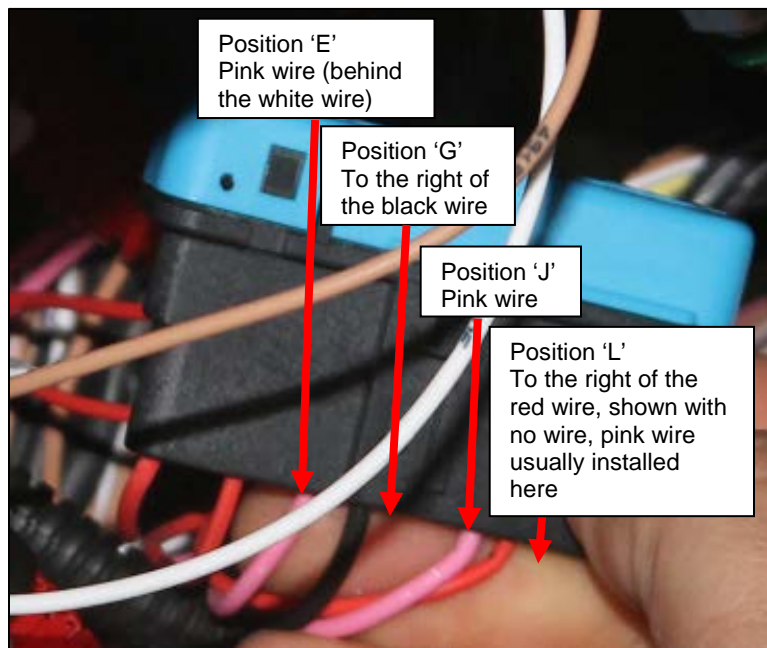

Figure 6: Location of Positions E, G, J, and L
5. Locate Position E on the plug. See **Figure 6**.
8. Cut the wire in Position 'J' and put a cap or sealing butt splice on the wire coming out of the plug. See **Figure 6** for location of Position 'J.'